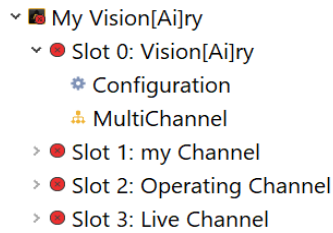

Figure 18 - Opening the Configuration Page in DashBoard
1. In the DashBoard tree, expand the Vision[Ai]ry node and the **Slot 0** node fully, and then double-click **Configuration** (Figure 18).